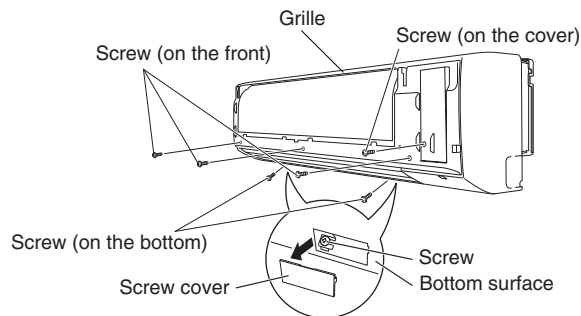

Fig. 1-66
- (3) Remove the 3 screws from the front of the unit and remove the screw covers on the bottom surface. Then remove the 2 screws. (Fig. 1-66)
- (4) Remove the screw on the right side cover plate and remove the cover. (Fig. 1-66)